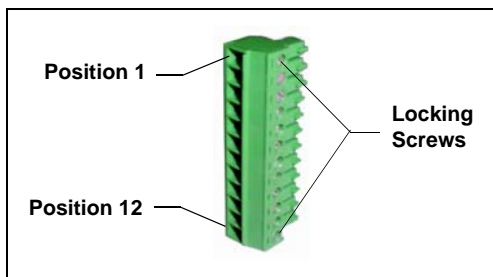

Figure 6. 12-Position Connector Plug
1. Locate the 12-position connector plug (P/N 923686) in the Dionex ICS-1000/1500/2000 Ship Kit (see Figure 6).